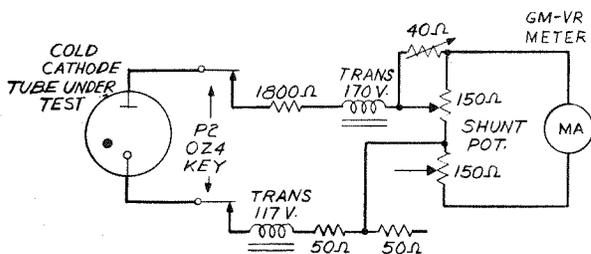

Fig. 5 - Cold Cathode Rectifier Test Circuit
2.26 Cold Cathode Rectifier Test Circuit: When testing a cold cathode tube, the circuit (Fig. 5) is similar to that described in 2.25 except that the two windings of the power transformers are employed in series, applying an ac potential of 290 volts in series with a current limiting resistor to the tube under test.